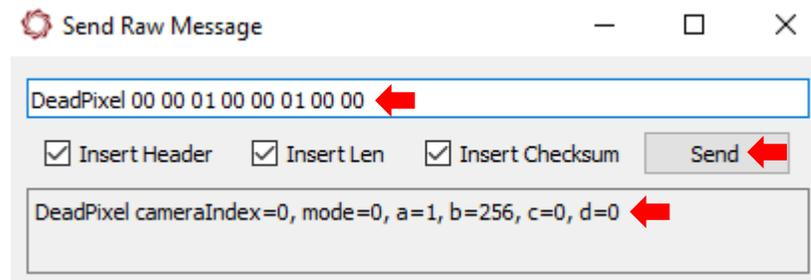

Figure A1: Adding Dead Pixels Using Command and Control
2. Check *Insert Header*, *Insert Len*, and *Insert Checksum* (Figure A1).